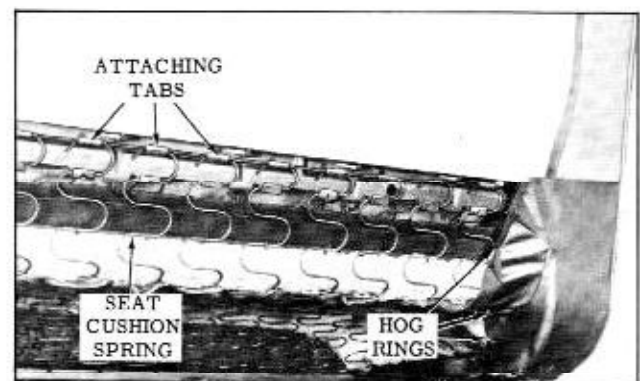

Fig. 15-61 Front Seat Cushion Spring Attachment
3. Raise trim and remove cardboard breakover foundation to expose seat cushion spring attachment to seat back frame along rear of seat and hog rings securing ends of seat back trim to seat bottom frame. (Fig. 15-61)
4. Bend open tabs securing seat cushion spring assembly to seat back frame and carefully disengage springs from tabs. (Fig. 15-61)